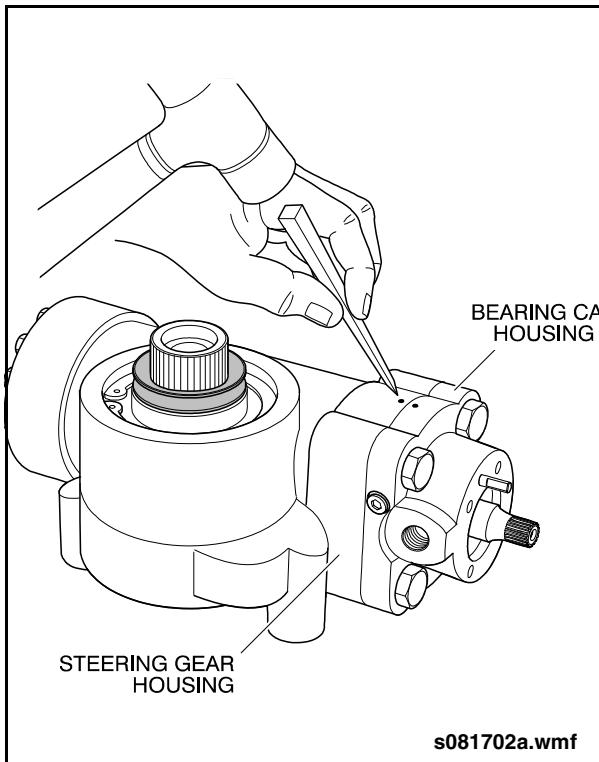

Fig. 3-21: Bearing Cap & Housing Reference Marks
10. Use a center punch to make reference marks on the steering gear housing and the bearing cap housing to aid in reassembly. See "Fig. 3-21: Bearing Cap & Housing Reference Marks" on page 36.